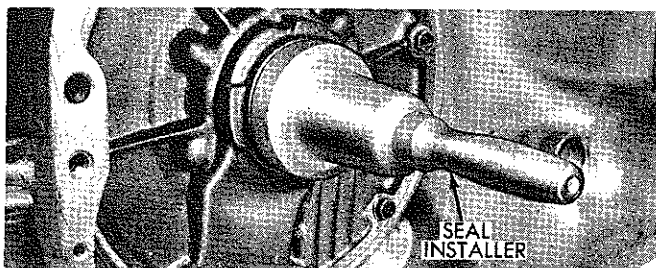

Fig. 28—Installing pump oil seal (typical view)
(2) To install a new seal, place a seal in opening of pump housing (lip side facing inward). Using Tool E21C35F, drive seal into housing until tool bottoms (Refer Fig. 28).